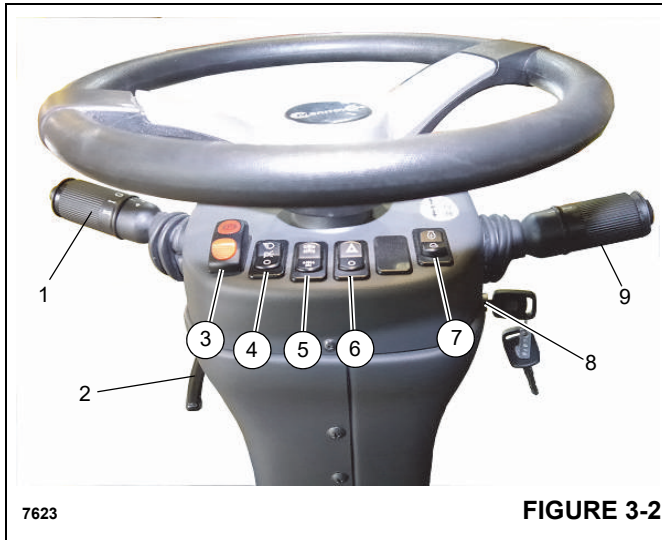

FIGURE 3-2
The steering column assembly (5) (Figure 3-1) is a pedestal style tilt and telescoping steering column. It can tilt rearward 30° or raise vertically 60 mm (2.3 in). It includes the ignition switch and other control switches (Figure 3-2).
Turn Signal Lever and Windshield Wiper/washer Controls (1) Figure 3-2 are located on left side of steering column. Pushing turn signal lever down causes left front and left rear turn signals to flash. Pushing turn signal lever up causes right front and right rear turn signals to flash.
Rotate joystick (2) Figure 3-2 down to lock steering column in place. Rotating lever up releases steering column for adjustment.
Park Brake Control Switch (3) Figure 3-2 is located on front of steering column. This two-position rocker switch (ON/OFF) is used to apply and release the parking brake on the drive line. The red Park Brake Indicator light on the display is illuminated when pressure switch in the brake release system is activated and brake is applied.
The Headlights Switch (4) Figure 3-2 is located on the front of the steering column. This three-position rocker switch (OFF/Park/Headlight) controls operation of the instrument lights, switch LEDs, and the marker lights on the front, rear, and side of the crane. The switch is illuminated when the key is in the ON or Start position.
Drive Axle Selector Switch (5) Figure 3-2 is located on front of the steering column and is illuminated when key is in the ON or Start position. This two-position rocker switch is used to select two-wheel drive (high range) or four-wheel drive (low range).
Hazard Lights Switch (6) Figure 3-2 is located on front of the steering column and is a two-position rocker switch (ON/OFF). When switch is positioned ON, four turn signal lights and turn signal indicator lights on steering column flash at the same time.
The Engine Speed Increase/Decrease Switch (7) (Figure 3-2) is a three position momentary rocker switch with center maintained position being off. Use this switch to adjust engine speed (RPM). Press top or bottom of the Engine Speed Increase/Decrease Switch to increase or decrease low engine idle.
The Ignition Switch (8) Figure 3-2 is located on the right side of the steering column and under the transmission shift lever (9). The switch is key-operated and has three positions: OFF [0], RUN [1], and START [2].
The Transmission Shift Lever (9) Figure 3-2 is located on the right side of the steering column. The control lever operates the transmission selector valve electrically. Positioning the